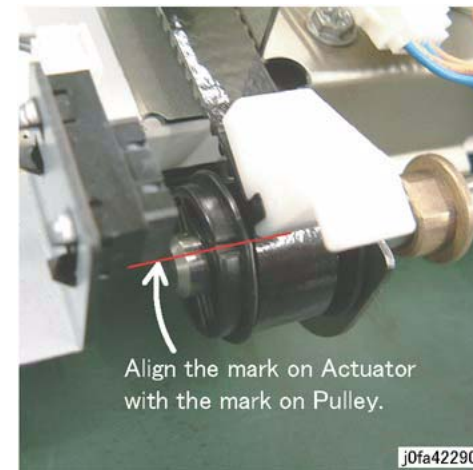
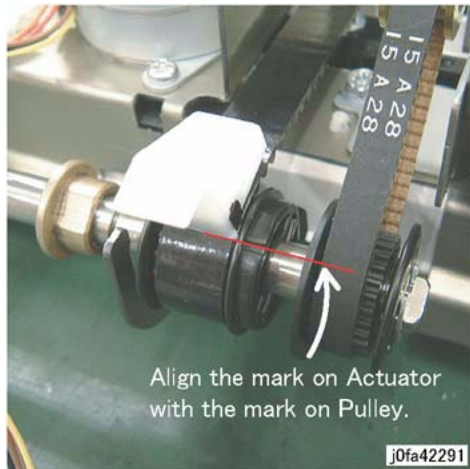

Figure 3 Eject Belt Alignment
Figure 4 Eject Belt Alignment
2. Install and align the Eject Belt with marks on the Pulleys (Figure 3), (Figure 4)